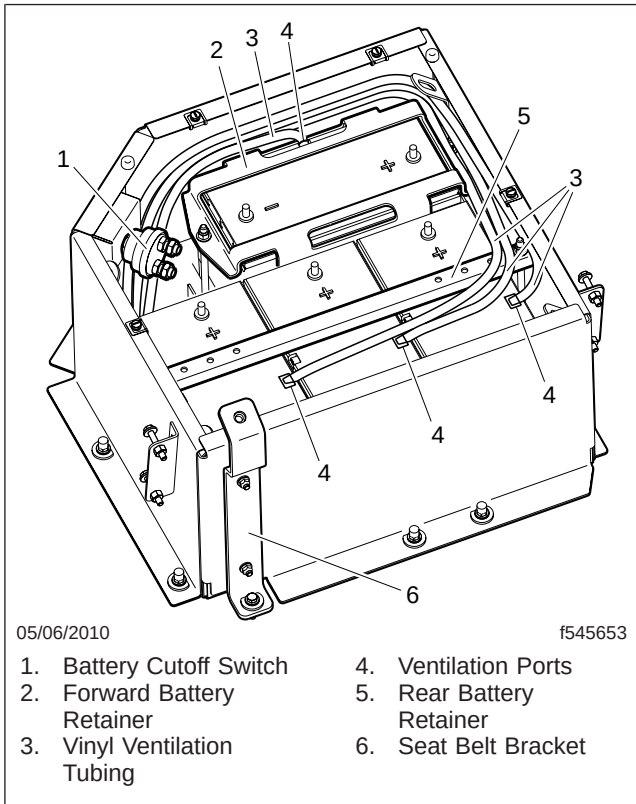

Fig. 8, Under-Seat Battery Installation
5. Remove the vinyl tubing from the ventilation ports on the batteries. See Fig. 8, ref. 3 and 4.